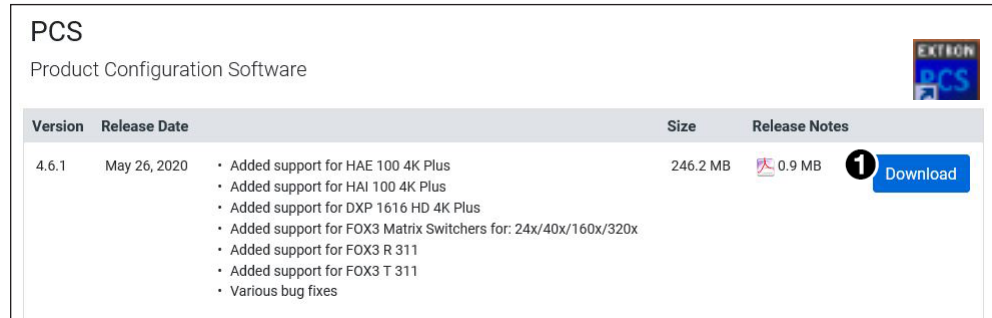

Figure 15. PCS Download
- Click **Download** (figure 15, ❶) and follow the onscreen instructions to download and install the program on your PC.